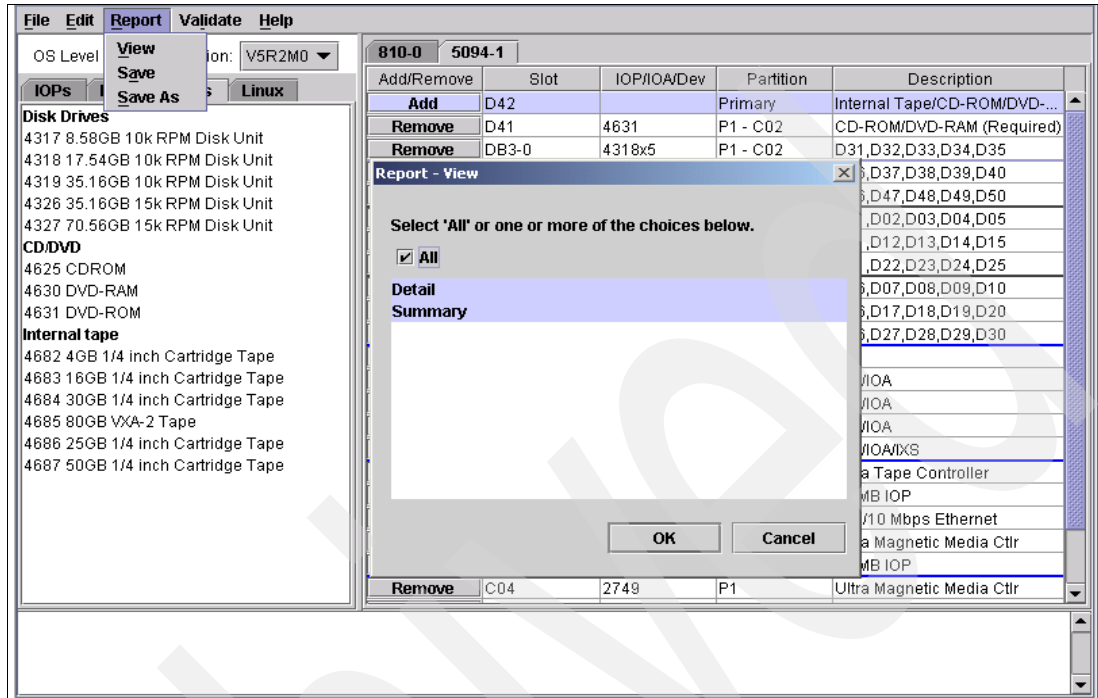

Figure 9-8 Example window view or save report
- f. The resulting report can be viewed or saved to disk by selecting Report. For more complete information, save both the **Detail** and **Summary** versions of the report using the **All** option (Figure 9-8).